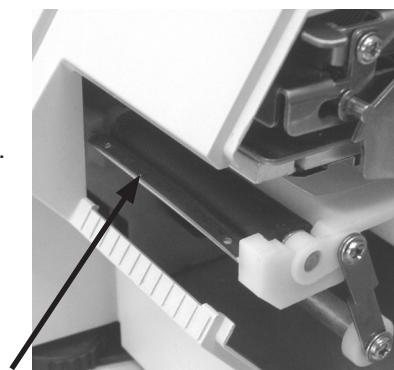

Figure 7-2
6. Continue to pull the label paper through and make sure it is fed over the metal bar shown in Figure 7-2 and under the bar\*. See Figure 7-1.